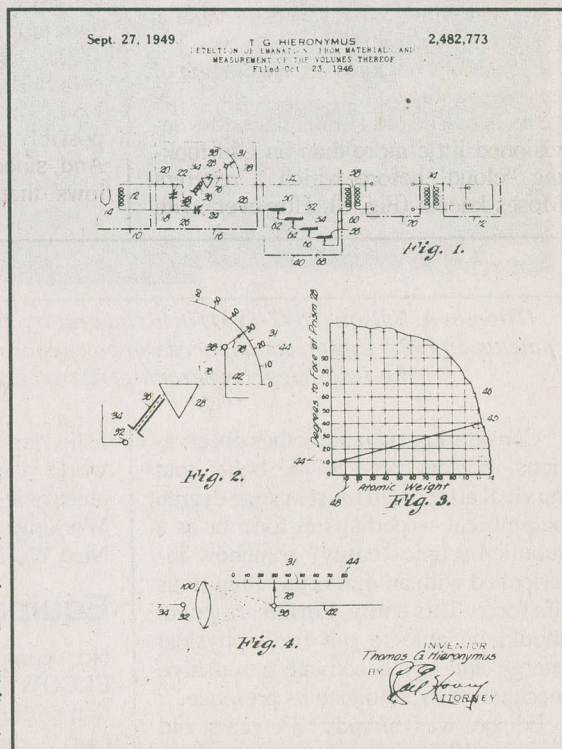

Fig. 3. Title page of U.S. Patent #2,482,773 pertaining to occult Hieronymus machine for 'detection of emanations.' See text.
The so-called “Omega Phone,” an expensive custom-made device, again reflected Edison’s ideas, but, was operationally augmented by two items deemed important: (1) a sacrificial urn for burning and holding the ashes of paper money, and (2) a dial-operated Hieronymus mechanism for connecting the apparatus to a domestic telephone line functioning as an aerial. Fig. 2 shows the phone. Fig. 3 is the actual patent drawing from which the Hieronymus mechanism was derived.